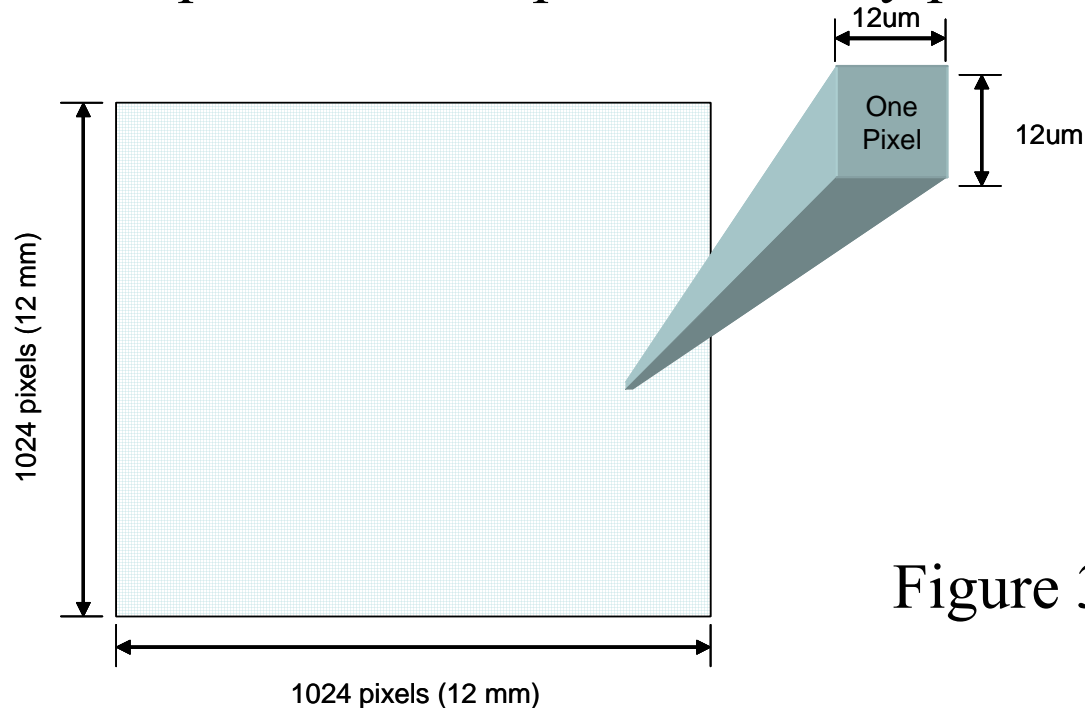

Figure 3
(1) Basic structure
- ❖ A two-dimensional **CCD** is a matrix of millions of picture elements (pixels) made from silicon. (Fig. 3).